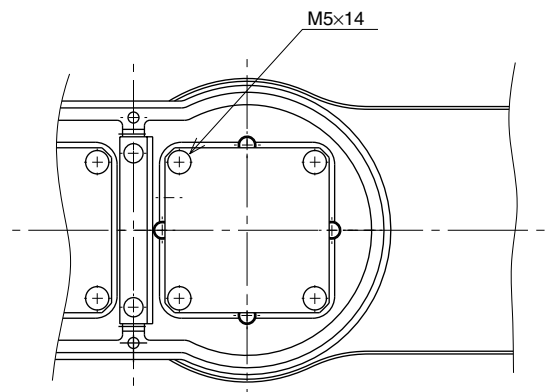
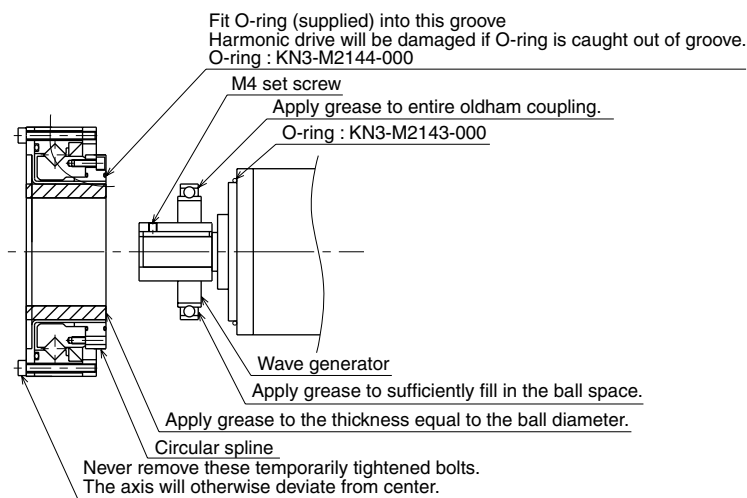

Fig. 5-23
Fig. 5-27
- 7) Remove the Y-axis motor installation bolts (M5×14L, 4 pieces) and then remove the Y-axis motor by swaying it gently right and left.(See Fig. 5-23.)
- 8) Remove the wave generator from the motor shaft. The wave generator is secured with an M4 set screws. (See Fig. 5-27.)
- 15) Fit an O-ring (supplied with the harmonic drive) coated with harmonic grease into the O-ring groove on the new harmonic drive. (See Fig. 5-27.)
- 17) Apply harmonic grease to the new wave generator and flexible spline. See Fig. 5-27 for applying grease properly.
- 18) Fit the wave generator onto the motor shaft, and fully insert it against the motor. Then, apply small amounts of “Screw Lock” to the M4 set screw (1 piece) you removed earlier and tighten it to secure the wave generator. (See Fig. 5-27.)
- 19) Fit a new O-ring to the motor and tighten the bolts (M5×14L, 4 pieces) you removed earlier to temporarily secure the motor to the Y-axis arm. (See Fig. 5-23 and Fig. 5-27.)